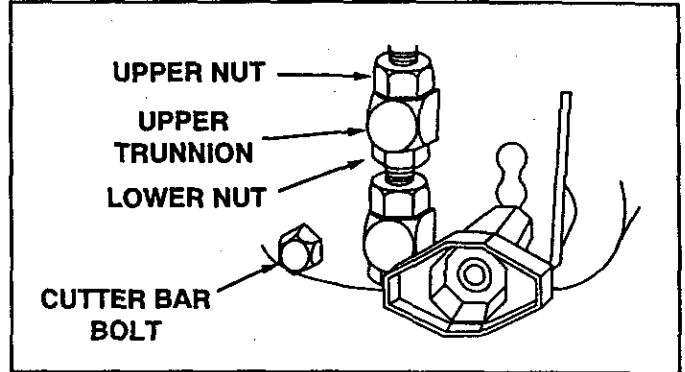

FIGURE 10
IMPORTANT: Adjust only the nuts securing the upper trunnion; **DO NOT** adjust the nuts on the lower trunnion. Refer to figure 10.
- To increase the clearance between the cutter bar and the blades, loosen the lower nut 1/4 turn and then tighten the upper nut 1/4 turn. Adjust each side of the mower equally until a .003" clearance is obtained. See figure 10.
- To decrease the clearance between the cutter bar and the blades, loosen the upper nut 1/4 turn and then tighten the lower nut 1/4 turn. Adjust each side of the mower equally until a .003" clearance is obtained. See figure 10.